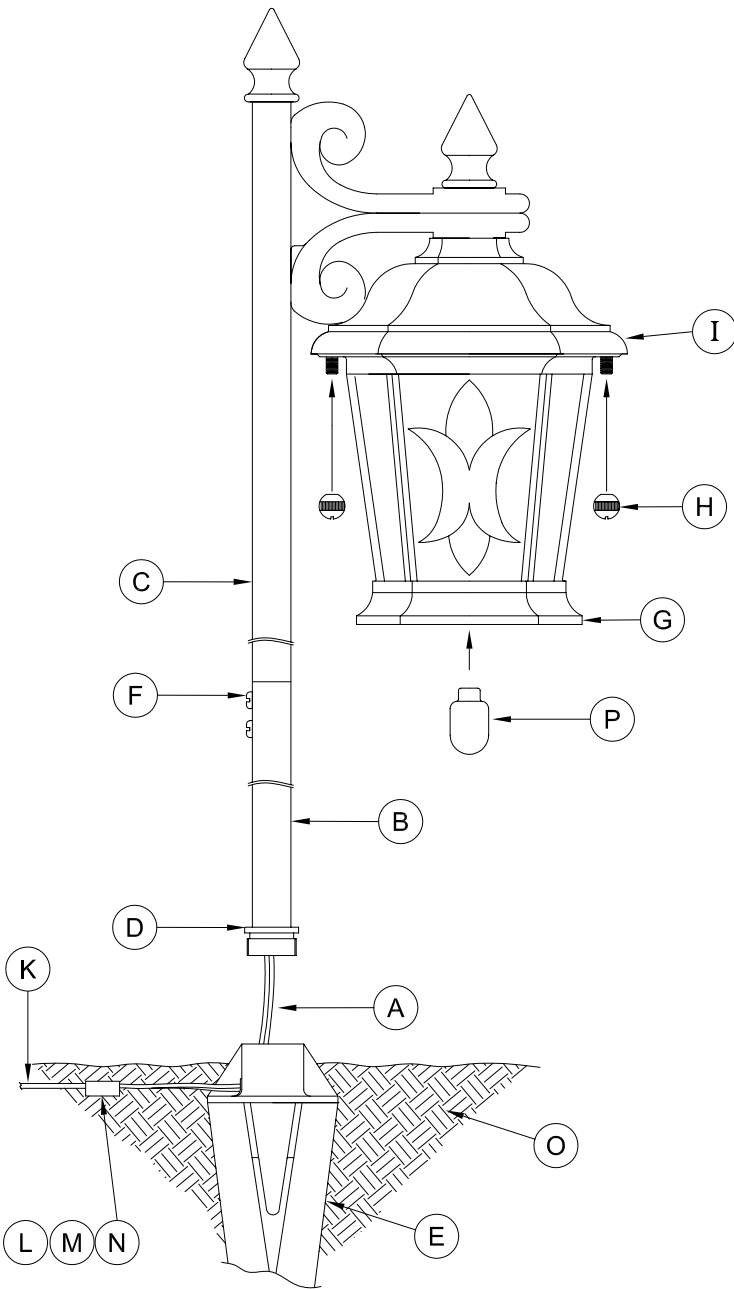

FIG. 1
5. E → O (FIG. 1)
5. E —————> O (FIGURE 1)